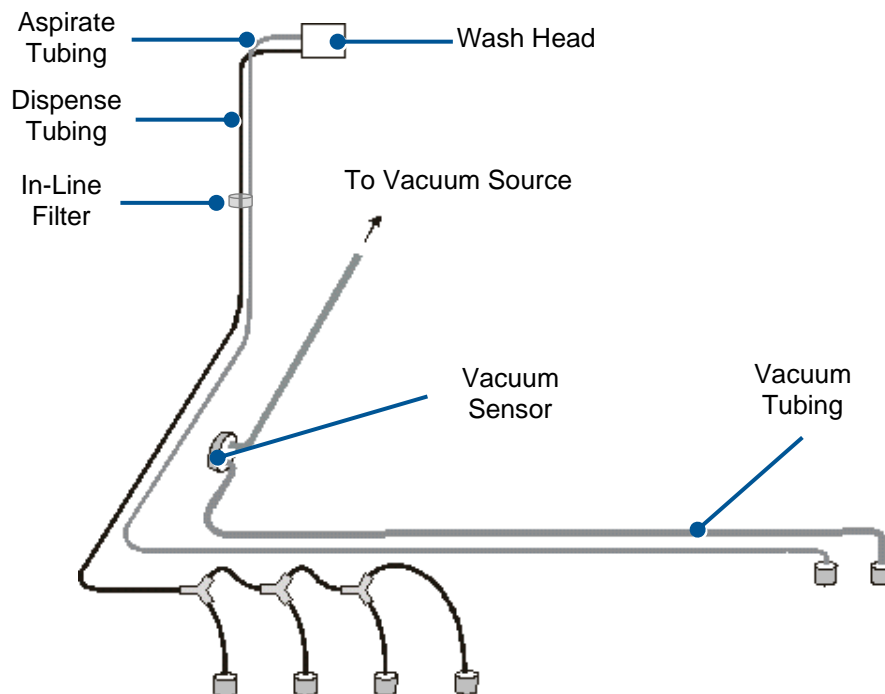

Figure 154: Hydraulic Tubing Diagram
3. A diagram of the hydraulic tubing for the DSX Automated ELISA System is shown in Figure 154. Consult the diagram for routing of the tubing.